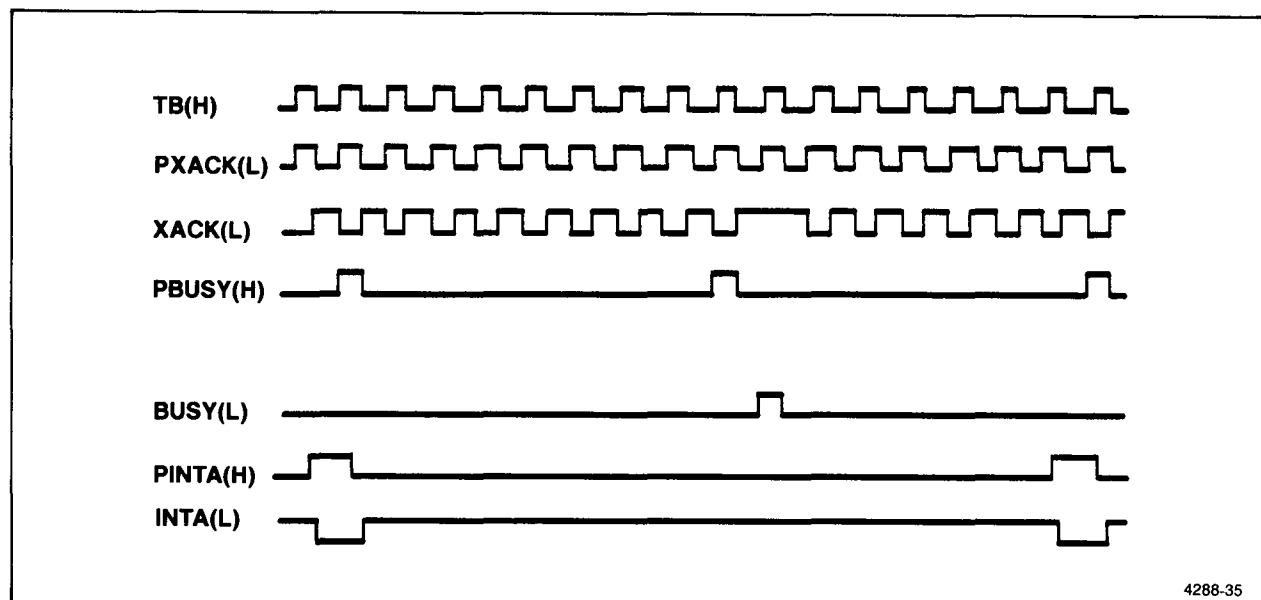

Figure 4-9. XACK(L), BUSY(L), and INTA(L) generator timing relationships.
On cycles where there is no coincidence of PINTA(L) and PBUSY(H), a 1 is loaded into flip-flop U3075A. This enables the command decoder, allows the BUSY(L) line to remain low, and allows the XACK(L) line to be a function of PXACK(L). Figure 4-9 shows timing relationships of the pertinent signals.